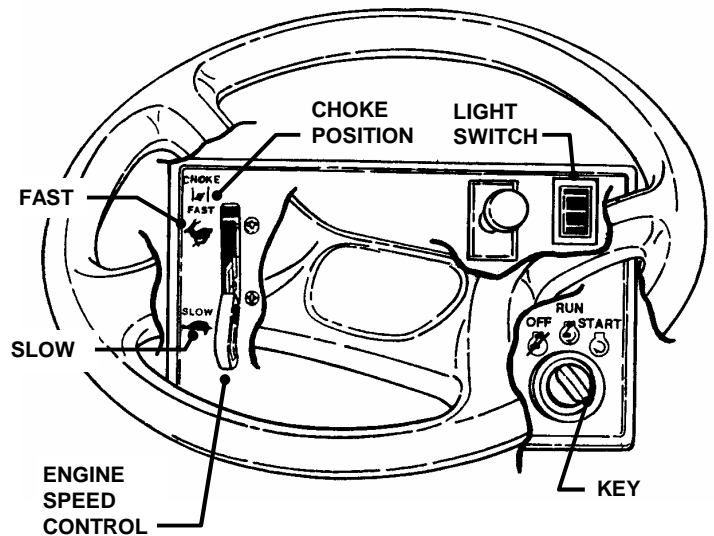

FIGURE 2.6
5. Choke engine for cold starting by moving engine speed control to "CHOKE" position. **NOTE:** Some models are equipped with a separate choke control, located on the dash of the tractor. Pull the control "OUT" to choke position to start a cold engine. Little or no choking will be needed when restarting a warm engine. Insert key in switch. Turn key to "START" position to crank engine and hold until engine starts, then release key to "RUN" position. See Figure 2.6.
6. After engine starts, release key, move the engine speed control to "FAST" position and allow engine to warm up before proceeding. See Figure 2.6.